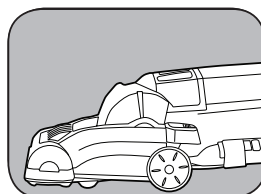

Fig. 4
4. Low position – for cleaning under furniture* (Fig. 4).